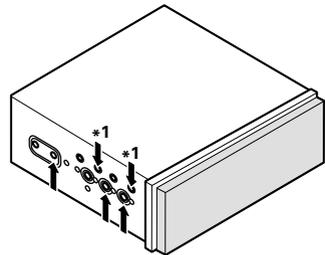

Fig. 14
- **Fastening the unit to the factory radio mounting bracket. (Fig. 14) (Fig. 15) (Fig. 16)**